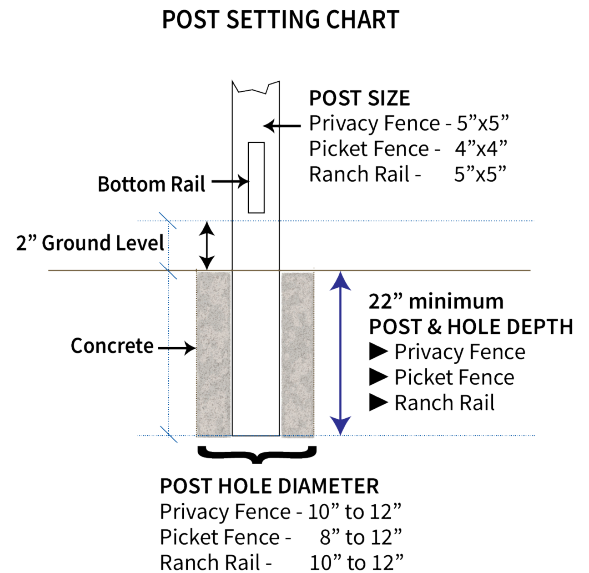

Fig.2a
1. Dig all End-Corner post holes first, 10" for 5"x5" post and 8" for 4"x4" in diameter and 24" deep (Fig. 2a).